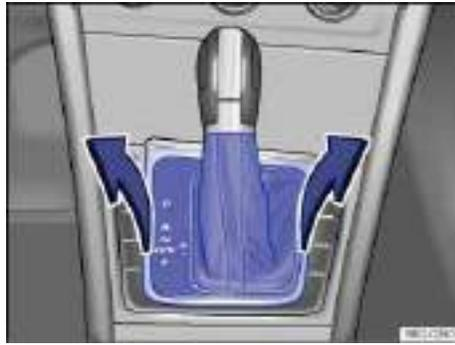

Fig. 182 Removing the selector gate cover.
- Pull upward on the front of the selector lever cover to release it, then pull the selector lever sleeve upward ⇒ fig. 182.